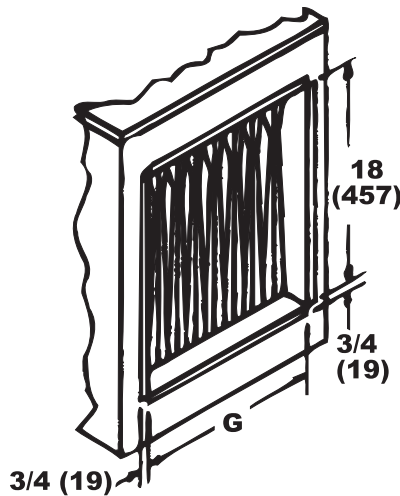

Figure 8. Ductwork Connection Dimensions (Refer to Table 8)
- **Connection dimensions:** connection dimensions (inches (mm)) are shown in Figure 8 and listed in Table 8.
*See Figure 8.